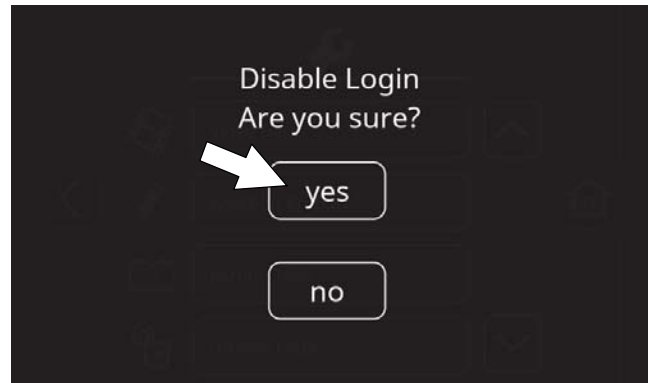

FIG. 179
5. Press the yes button to disable the login at machine start up (Figure 179).